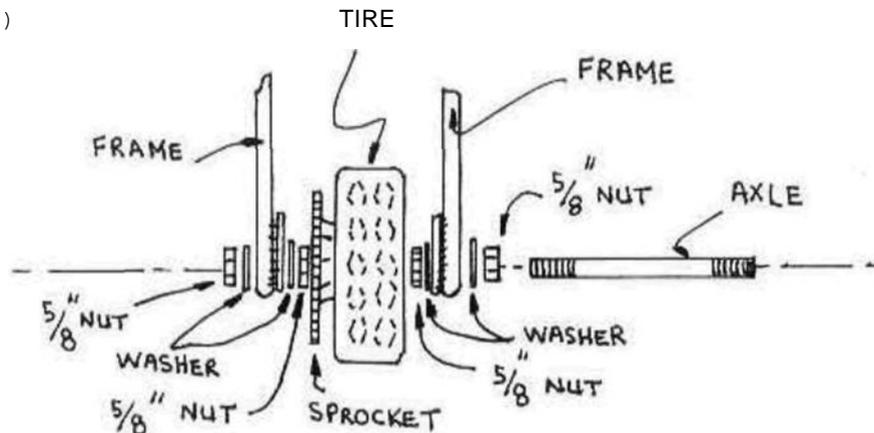

FIGURE 17
13. Install the rear wheel assembly to the frame as shown in Figure 17 below. (Insert the axle through the hub of the wheel, put on $\frac{5}{8}$ " jam nuts. Then put on a washer on each side and slide onto the frame. Install another washer and $\frac{5}{8}$ " nut and tighten.)